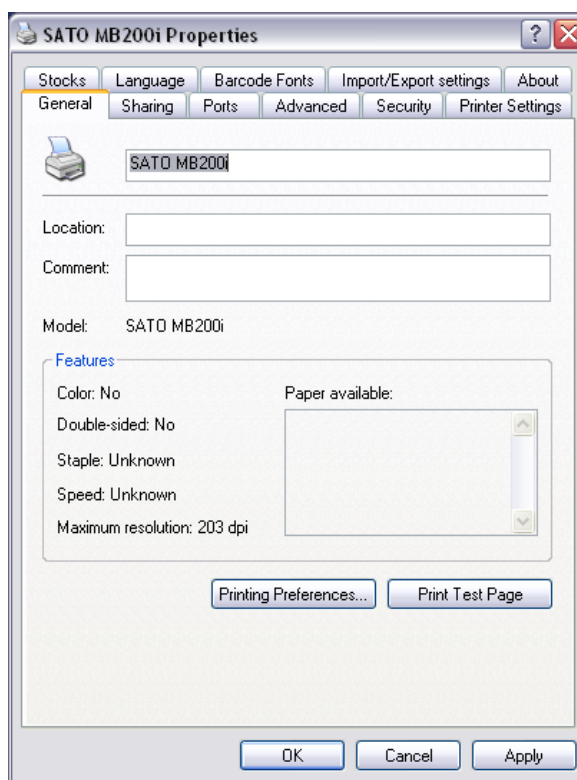

Figure 3-17, SATO MB200i Properties
19. At the SATO MB200i Properties screen (Figure 3-17), press the Print Test Page button to print a test label.